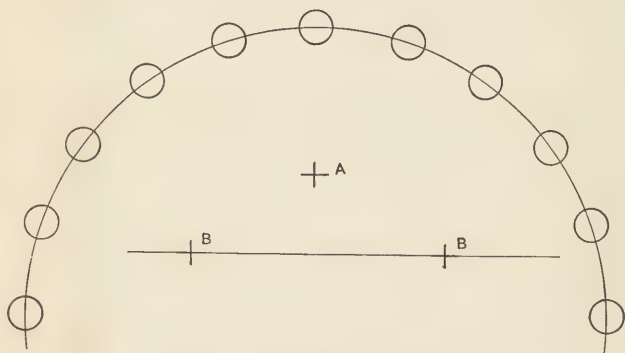

Fig. 4. Arrangement of Forges.
**Arranging Forges in a Shop.**—It is sometimes the custom to arrange forges in a smith shop in a straight line along one side near the wall, giving little thought to the inconvenience caused the workman by placing the forges in a haphazard way; and the financial loss that results from locating the smiths where they work at a disadvantage. Fig. 4 shows a simple and at the same time a convenient way to arrange the forges in a smith shop. They are placed in a semi-circle, which gives all the smiths the same chance at the steam and trip hammers, located at *A* and *BB* respectively. If only one or two smiths in a shop are allowed to use